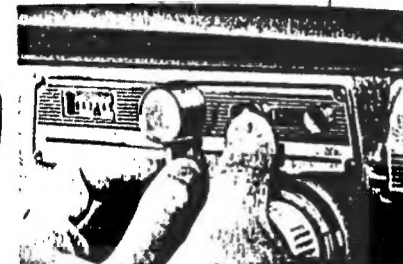

Fig. 21
Your sewing machine will enable you to sew ordinary straight stitches, numerous attractive embroidery patterns, buttons, button holes, blind stitches and many other useful stitches. The controls for zig-zag sewing are concentrated on the plate for easy operation, as shown in Fig. 21.
2. Set zigzag width indicator to 0. See Fig. 21.
1. Set zigzag width indicator to 5. See Fig. 21.
1. Set zigzag width indicator to the stitch width you desire. See Fig. 21.
Patterns to be sewn	How to move zigzag knob. See Fig. 21
4. Set the zigzag width indicator to 2. See Fig. 21.
5. Place the material under the foot of the machine with the needle at point "R" on the buttonhole—proceed to sew in reverse from points R-S (Fig. 23B) by pushing the button "B". See Fig. 21. Finish with the needle in the right hand side of the material. Raise the presser foot. Set zigzag width indicator to 5.
2. Set zigzag width indicator to 2. See Fig. 21.
3. Set zigzag width indicator to 4 (See Fig. 21) or less, according to the distance of the holes in the button.
3. Set zigzag width indicator to 0 (See Fig. 21) for straight sewing.
4. Set the stitch regulating dial "A" to 0. See Fig. 21.